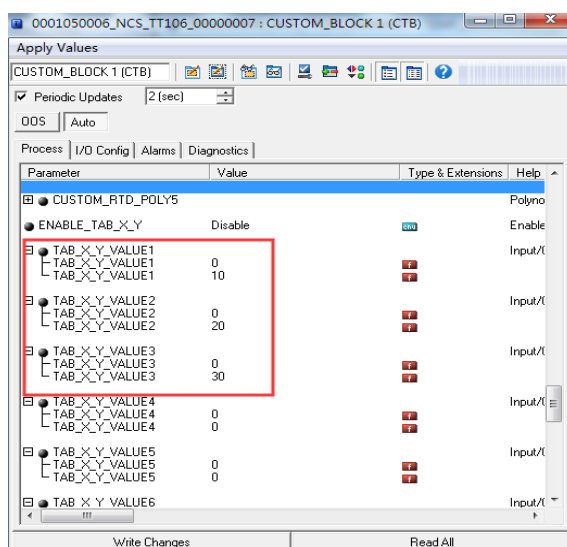

Figure 3.10 Calibration point configuration
(1) The NCS-TT106F temperature transmitter provides 16 calibration point inputs, namely the TAB_X_Y_VALUE1-TAB_X_Y_VALUE16 array of parameters of the transducer block. The user can write the output values to be calibrated into the array in turn and select a good unit. For example, when performing three-point interpolation calibration, the user can select 10, 20, and 30 as calibration points, and write the three values in the second place in the TAB_X_Y_VALUE1, TAB_X_Y_VALUE2, and TAB_X_Y_VALUE3 arrays, as shown in Figure 3.10.